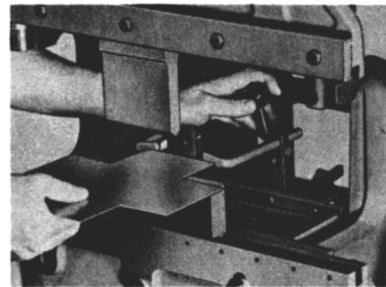

Figure 1
1. With die set in place, set the material stops by use of adjustomatic handle (figure 1).